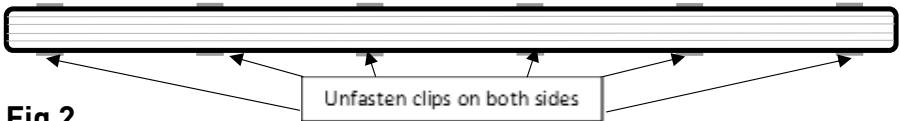

Fig 2
- Unfasten clips on either side of the fitting (see Fig 2)